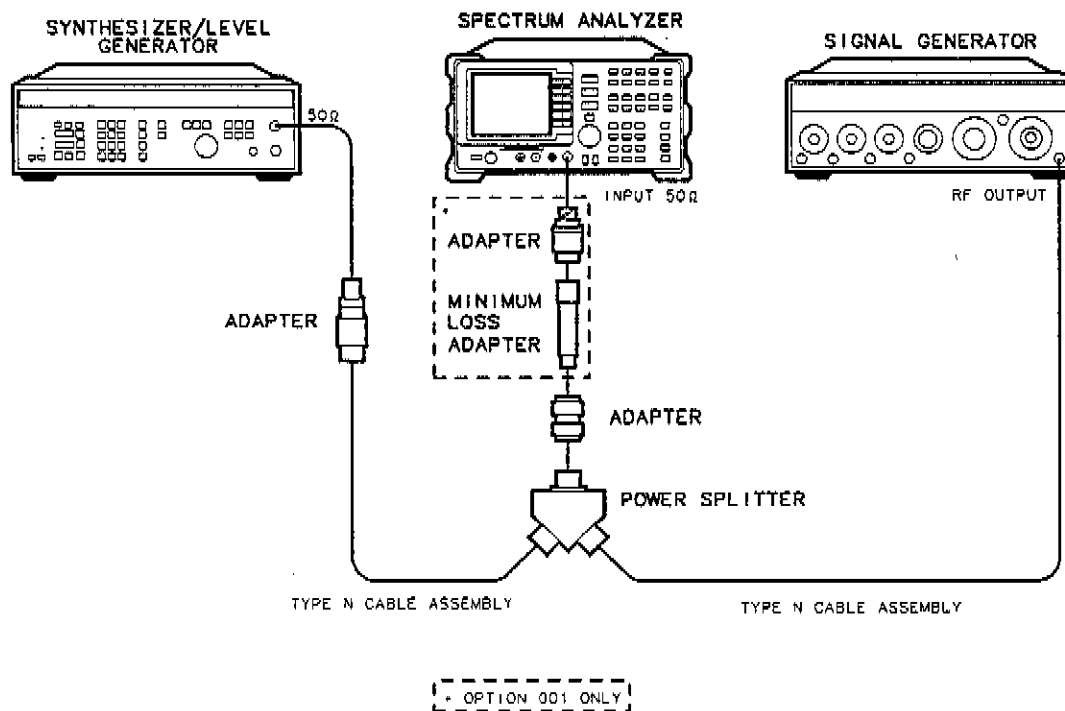

Figure 1-7. 10.1 MHz to 10 kHz Frequency Span Readout Accuracy Test Setup
1. Connect the equipment as shown in Figure 1-7. Note that the Power Splitter is used as a combiner.